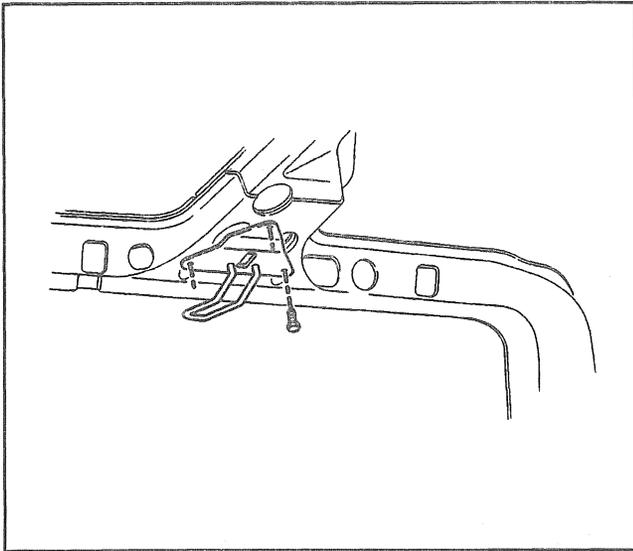

Figure 42—Upper Striker Assembly.
2. Striker assembly bolts (Figure 42).
1. Striker assembly bolts (Figure 42).